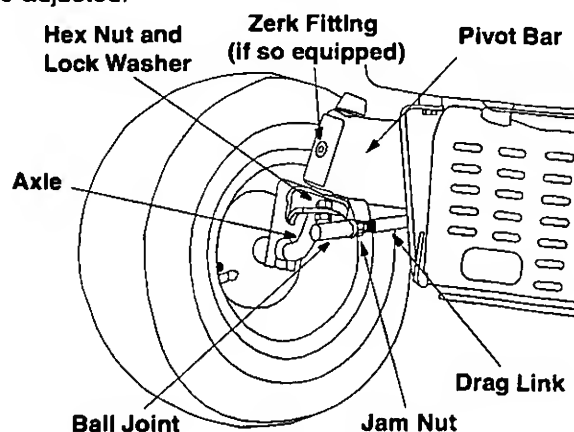

Figure 10
- Loosen the jam nut found on the drag link at the rear of the ball joint. See Figure 10.
- Remove the hex nut and lock washer on the top of ball joint. See Figure 10.